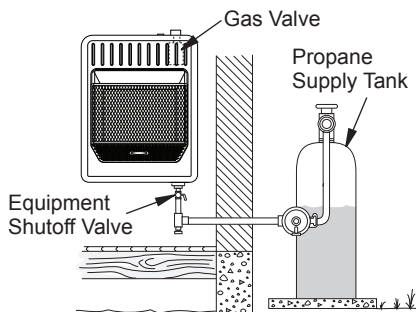

Figure 15 - Checking Gas Joints for Propane Gas
3. Check all joints from gas supply (see Figure 15 or 16) to equipment shutoff valve. Apply a noncorrosive leak detection fluid to all joints. Bubbles forming show a leak.
4. Check all joints from equipment shutoff valve to control valve (see Figure 15 or 16, page 16). Apply a noncorrosive leak detection fluid to all joints. Bubbles forming show a leak.